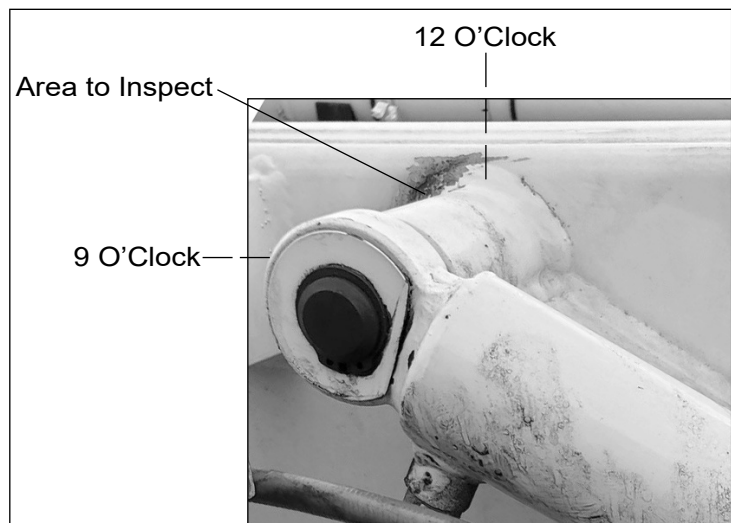

Figure 2 — Inspecting Weld
3. Inspect the weld around the base of the mounting pin between the 9 o'clock and 12 o'clock positions (refer to Figure 2).